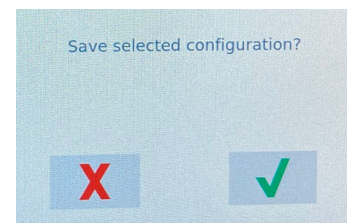

Figure 20
- k) The controller displays "Save Press the green checkmark Figure 20). If another display on configured, repeat steps 21a-21k